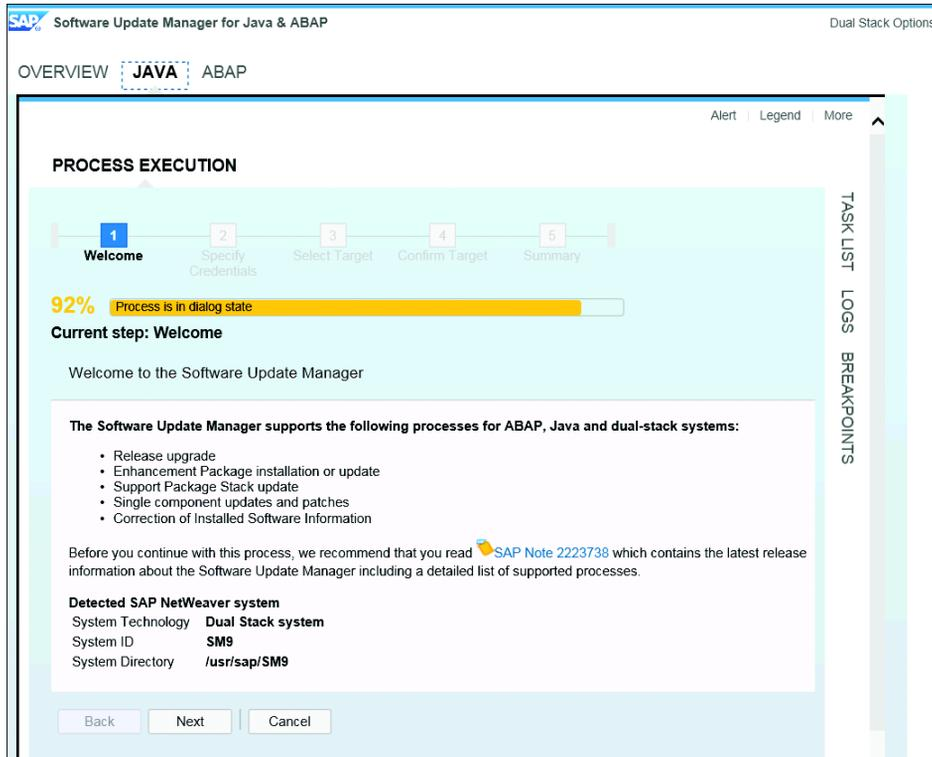

Figure 38 First Step In the Upgrade
1. Select the JAVA tab of SUM. Review the detected software and select NEXT (see Figure 38).